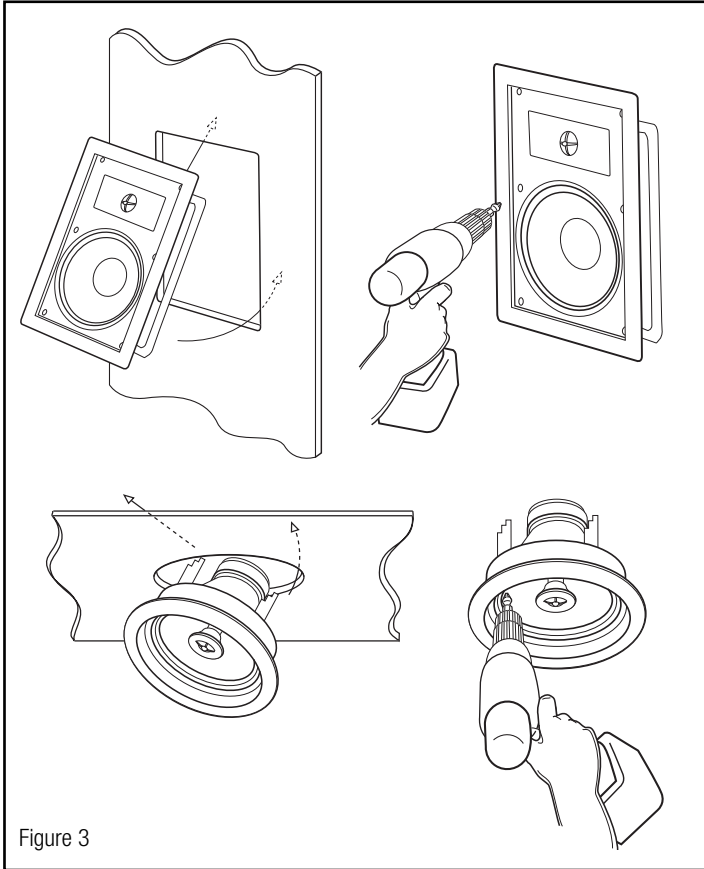

Figure 3
4. For in-wall installation, loosely attach the metal ring to the speaker frame using the six machine thread screws included with the speaker. Insert the ring and speaker into the opening, level to suit and attach to the wall by tightening the six Phillips screws (Figure 3). The metal ring will "sandwich" the wall and frame together as they are tightened. (Klipsch new construction brackets make this simple if used prior to drywall installation.) For in-ceiling installation, insert the speaker into the opening attach to the ceiling by tightening the four Phillips screws that are attached to the "dogs" that will flip out and "sandwich" the wall and frame together as they are tightened. (Klipsch new construction brackets make this simple if used prior to drywall installation.)